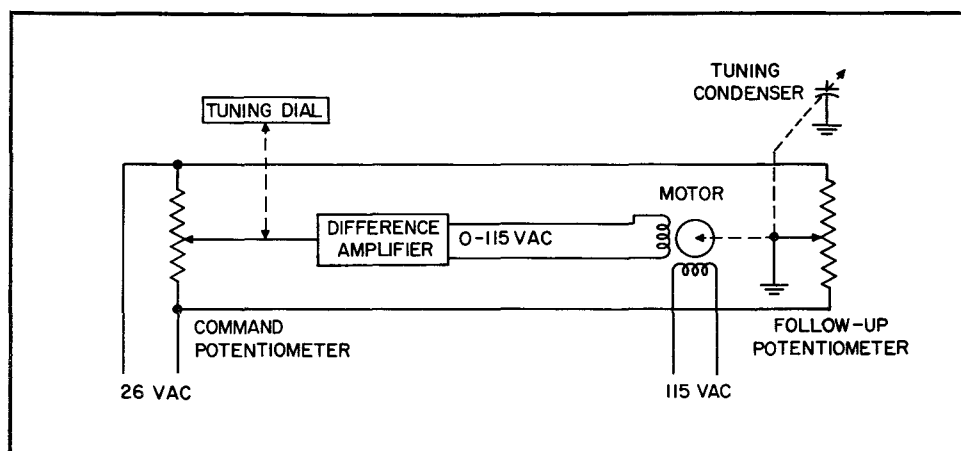

Figure 4-22. Antenna Tuning Servo Mechanism, Simplified Diagram
a. Theory of Antenna Tuning Servo Control System (Figure 4-22).
4-121. THEORY OF ANTENNA TUNING SERVO CONTROL SYSTEM. (Figure 4-22.)